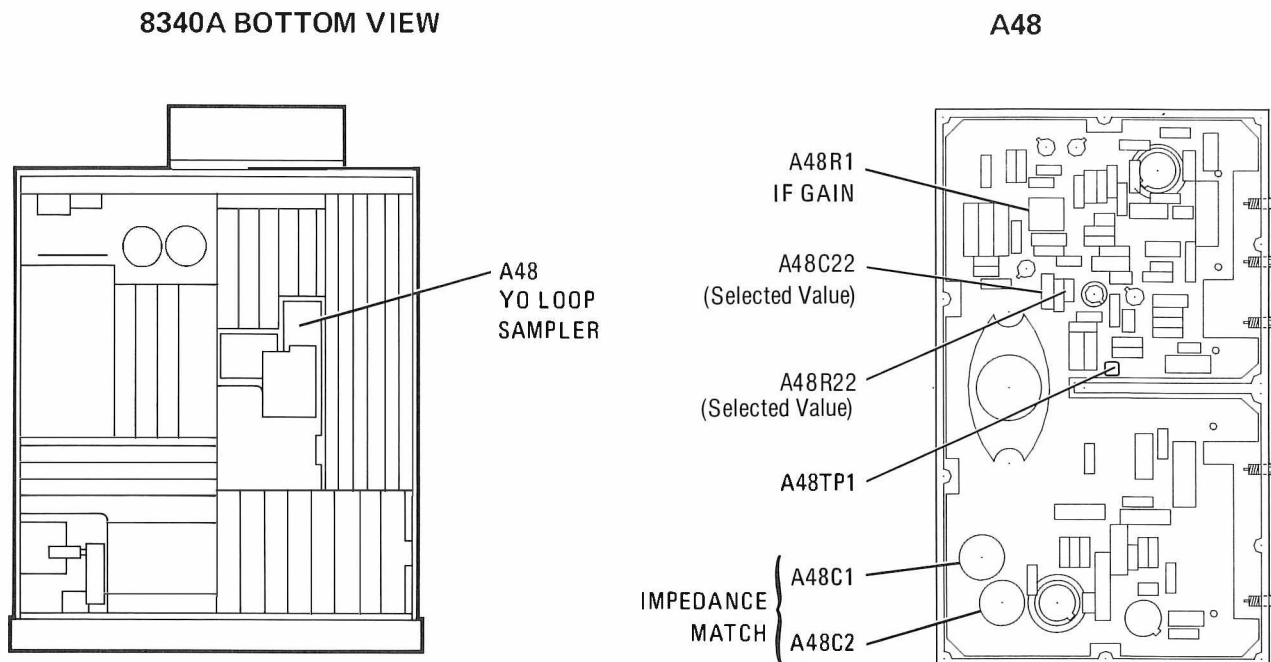
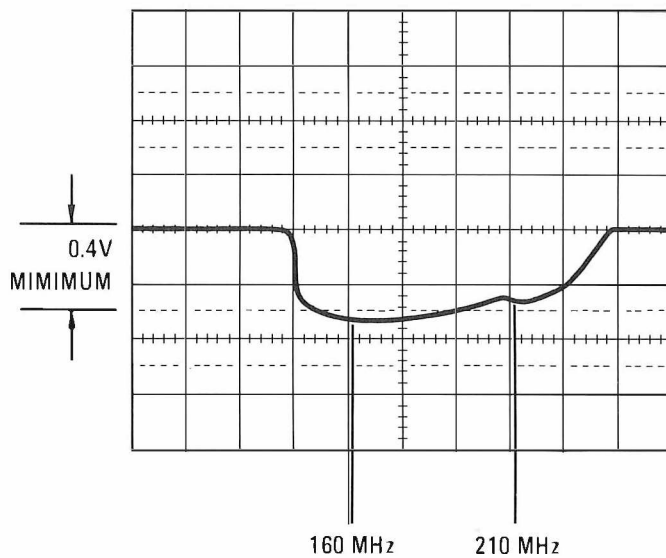

Figure 5-19. Location of YO Loop Adjustments
Figure 5-20. Typical Swept Frequency Response at A48TP1
7. Adjust A48C1 and A48C2 response adjustments (Figure 5-19) for a trace on the oscilloscope similar to Figure 5-20. Adjust for flattest response from 160 MHz to 210 MHz. The amplitude of the response should be at least 0.4 Volts peak-to-peak.